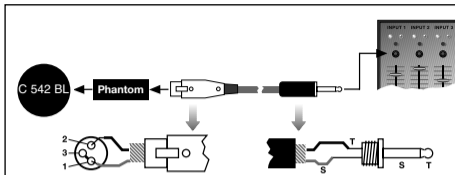

Fig. 2: Connecting to an unbalanced input.
1. Refer to fig. 2. On the XLR connector, use a wire bridge to connect pin 1 to pin 3 and the cable shield.